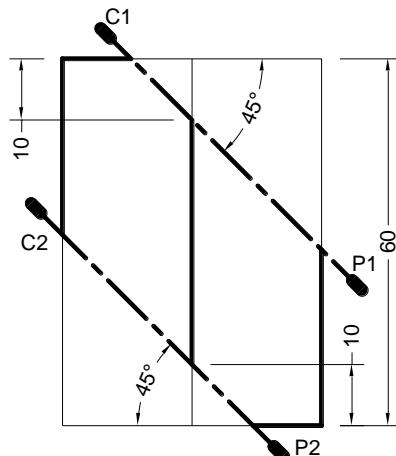

Fig.1
49. Fig.1 shows the F.V. of a square prism with side of 30 mm kept on H.P. on its base with all sides of base inclined to V.P. The prism is cut by two cutting planes C1-P1 and C2-P2. Draw the development of surface of the square prism.
19. Isometric view of an object is given in Figure 1. Use first angle projection. Draw the sectional front view along with A-A and left hand view of the object.